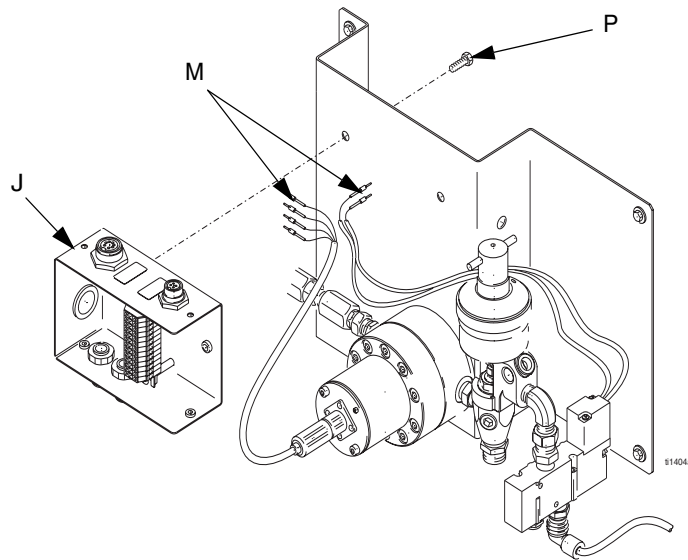
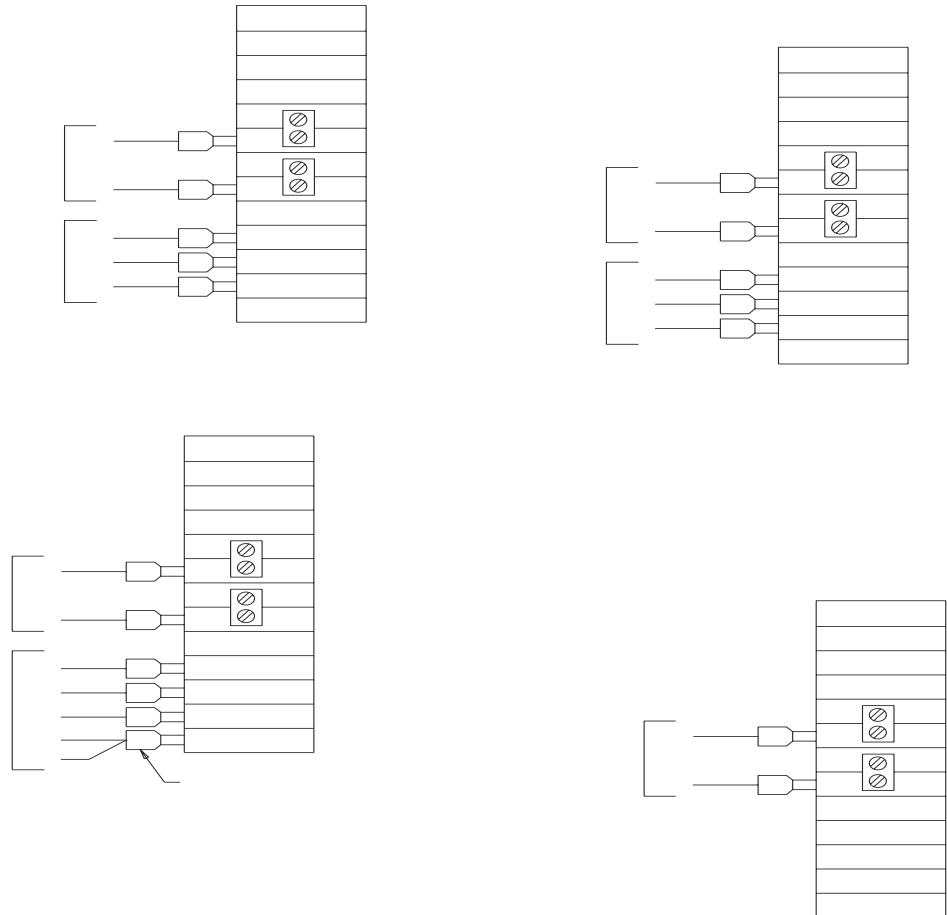

FIG. 19
FIG. 20
6. Remove the two screws (P) and remove the junction box (J). See FIG. 19.
7. Secure the new junction box with the two screws (P).
8. Connect meter and solenoid wires (M) to the terminal block. Connect as shown for the specific fluid panel in FIG. 20.